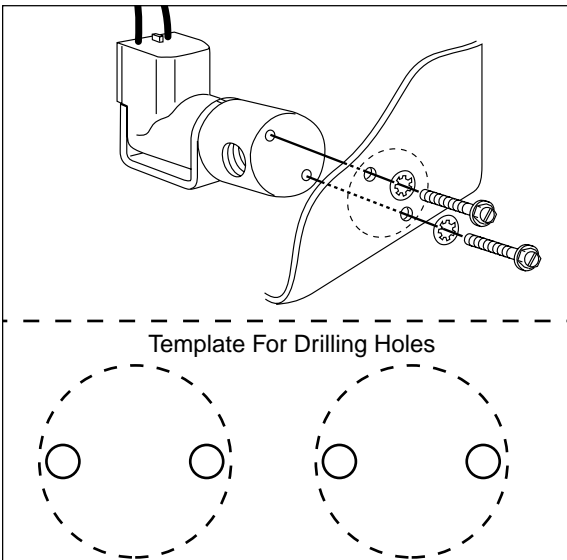

Figure 3
2. Select a convenient mounting location for the solenoid, which provides protection from the elements. Using the template provided in Figure 3, center punch the holes, remove the template, and drill two $\frac{3}{16}$ " holes. Use the supplied hardware for solenoid mounting (Figure 3).